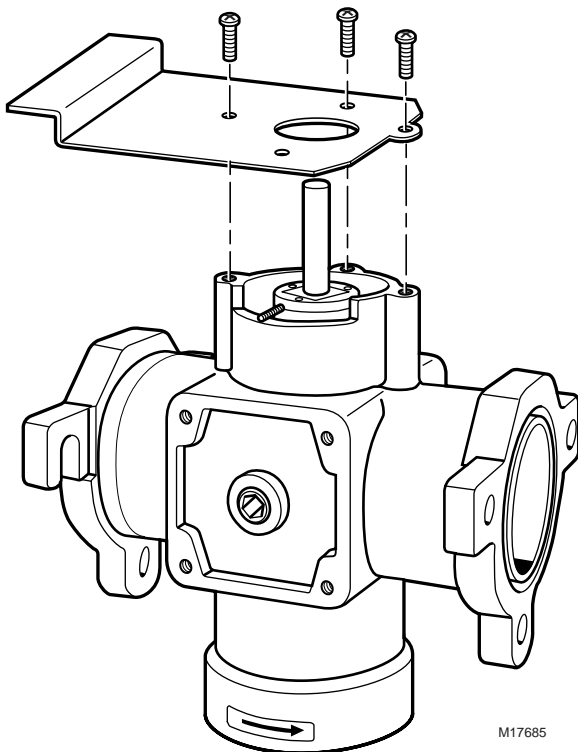

Fig. 11. Attaching the ML7999 Actuator mounting bracket to the V5197 Valve.
1. Choose the actuator and bracket position best suited for your location and place the mounting bracket over the drive shaft of the V5197 valve. See Fig. 11.